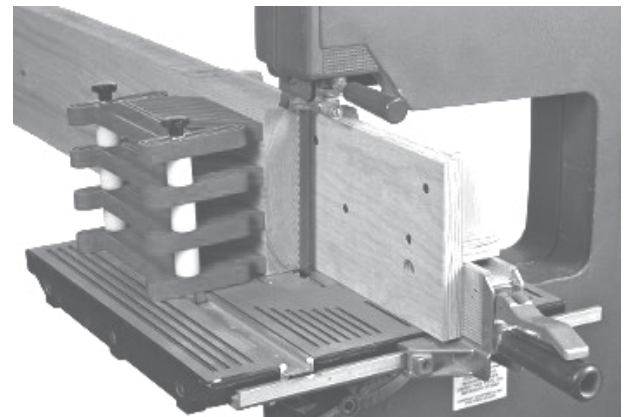

**Figure 10**
2. Use a handsaw to cut through the Expansion Bar at the intersection of the "X", as shown in Figure 10.